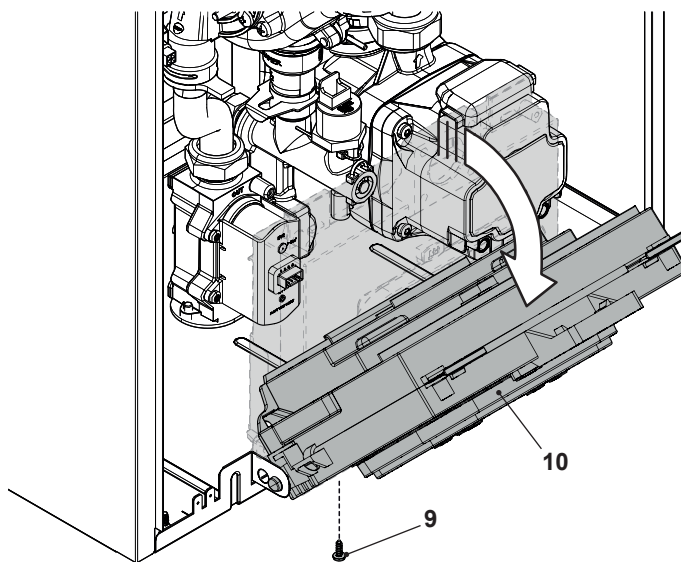

Figure 2.4
- 2 Unscrew the screw "9" and turn the control panel "10" (Figure 2.4).